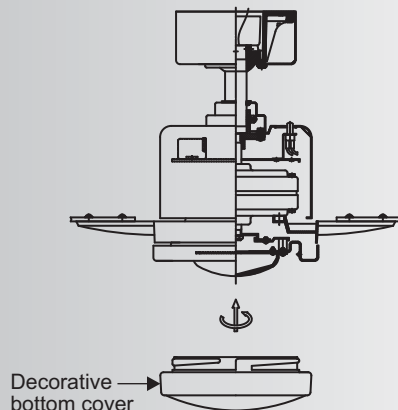

Fig. 20
**NOTE:** If you do not plan to install the LED light kit with your fan at this time, don't make the wire connections. Raise the decorative bottom cover against the LED light kit and turn clockwise until snug, **DO NOT OVERTIGHTEN.** (Fig. 20)